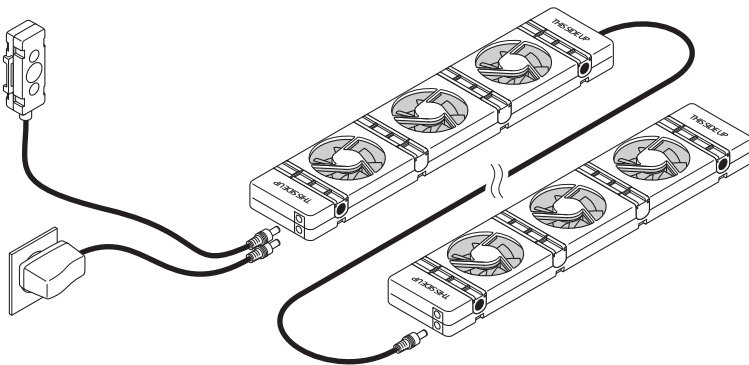

Fig. 4 - Connect additional SpeedComforts (A).
6. On long radiators, connect additional **SpeedComforts** (A) with the 30 cm **connecting cables** (F) (see fig. 4). Multiple **SpeedComforts** (A) (up to 20) can be connected to one **power adapter** (D). Additional **temperature sensors** (E) are not required. The DuoSet and the TrioSet include several **SpeedComforts**.